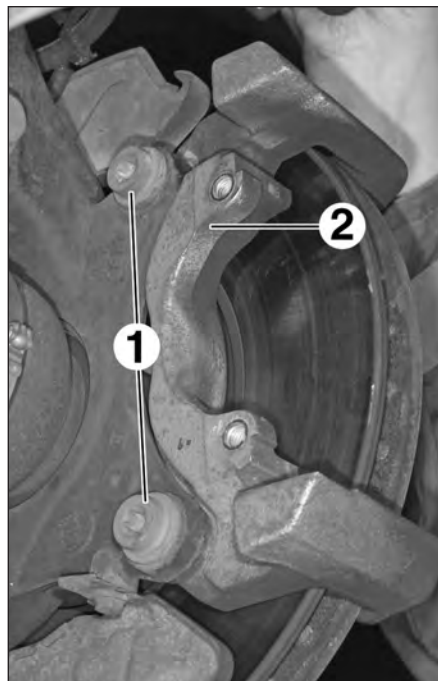

FIG.9
- les vis (1) (Fig.9),
- le support d'étrier (2),